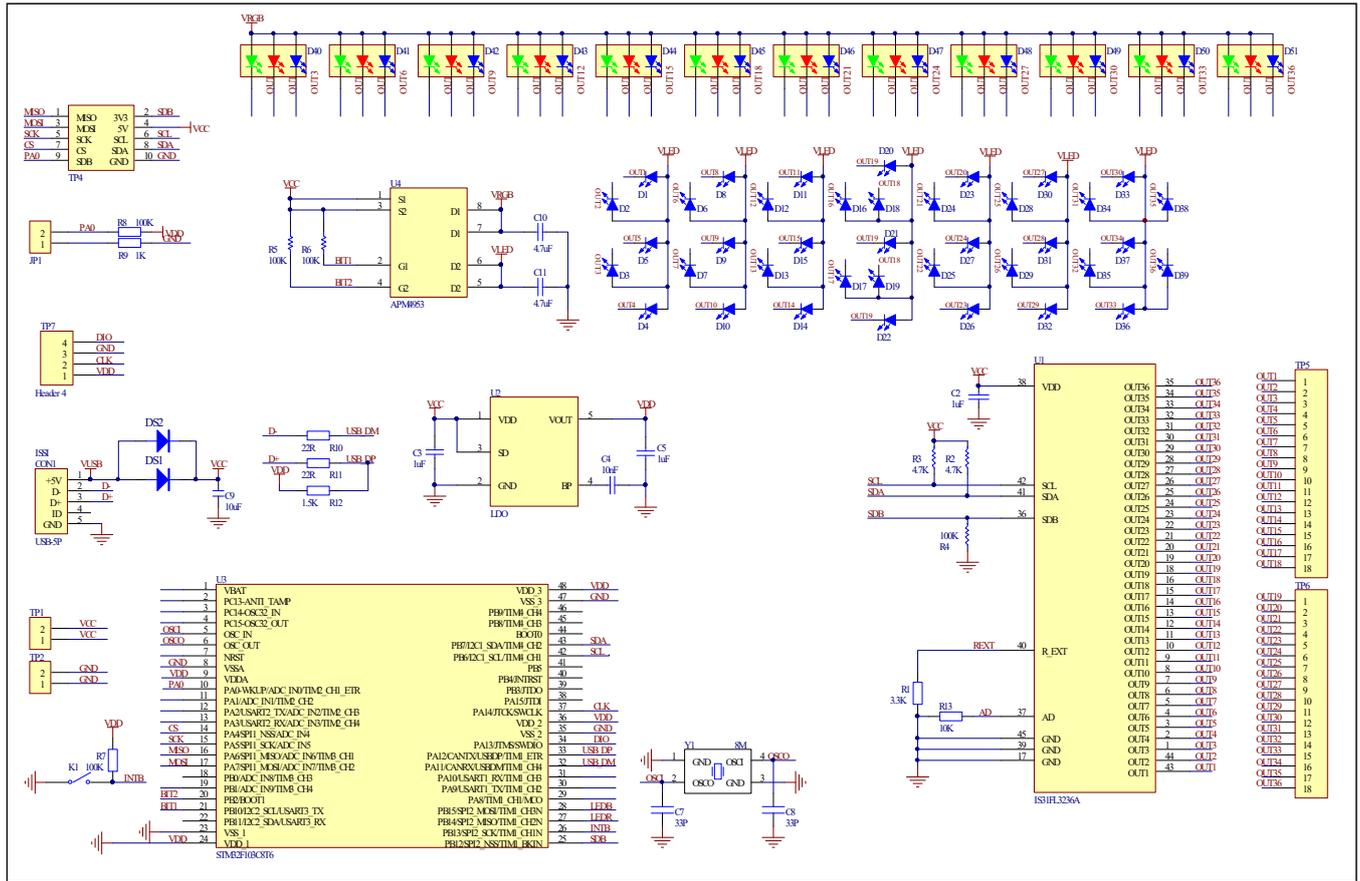

Figure 3: IS31FL3246A Application Schematic
*Bill of Materials, refer to Figure 3 above.*